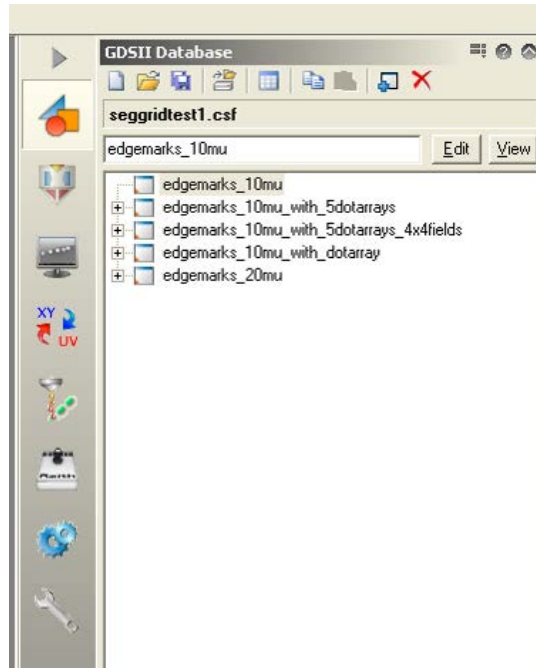

Figure 24: Pattern Database editor.
- In the patterning menu (1st lithography menu from the top in Figure 5) you can load an existing pattern library (GDSII database file). The program supports many different formats. Please consult the manual for the different possibilities for importing your pattern. The pattern can also be generated using the e-Line software. Just create a new library file (.csf file), using the white sheet icon at the top left (see Figure 24). Then right click into the white space underneath the menu, then select ['new pattern']. Select the new structure entry and the click on edit to open the GDSII editor. At the top right hand corner you will find the icon that opens the toolbox window, which gives access to a large number of functions to create your pattern from scratch, or edit it. Check the manual for details.
- If you have created your pattern ascii text file using another programming tool like Matlab, the import dialogue is somewhat hidden. Select the menu button marked in Figure 24 and choose 'Load Ascii...' to import the pattern text file.